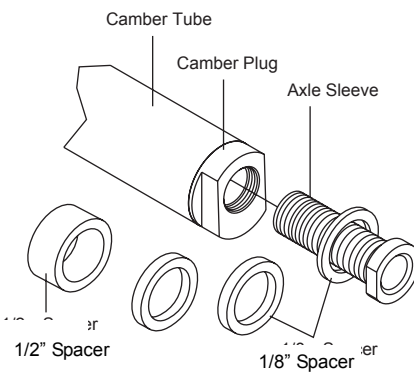

Figure 123
1. Place the 7/8" open-end wrench onto the camber plug and use the 3/4" open-end wrench to remove the axle sleeve. See Figure 123.